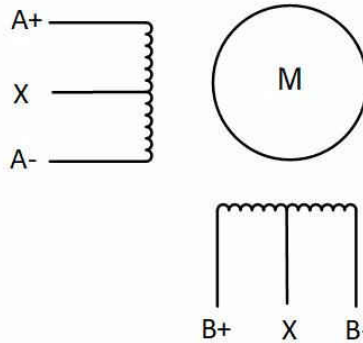
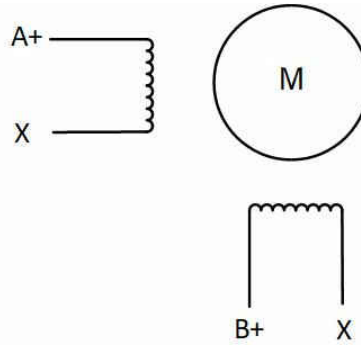

Figure 2-1. Unipolar Stepper Motor
Figure 3-4. Unipolar Motor with Half Windings per Phase
- **Use half of each winding** – If the center taps of an unipolar stepper are electrically isolated, as shown in Figure 2-1, one can use one of the half windings per phase, as shown in Figure 3-4.